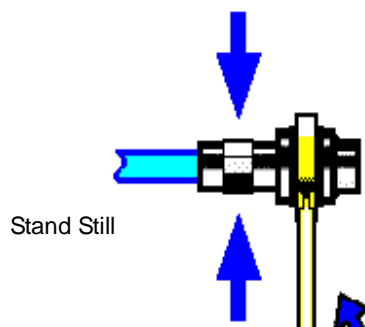

Figure 3.5 Tighten with A Torque Wrench to Complete Final Connection
- Step 3** As shown in Fig. 3.5, tighten with a torque wrench to complete final connection. Note that the torque wrench should not exceed the initial breakpoint. Use an auxiliary wrench to prevent the connector from rotating.